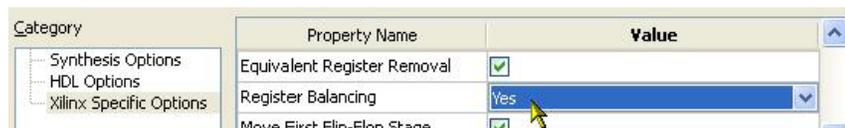

Figure 8-2: Select Register Balancing
- Open the Xilinx Specific Options dialog box, set the **Register Balancing** option to **Yes** (see Figure 8-2), and then re-run XST.